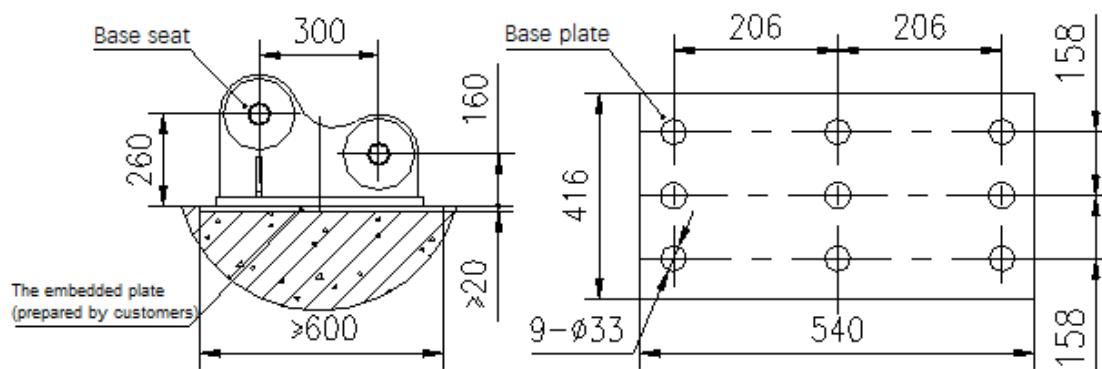

Fig. 3-14 The pin bore and the base plate
- If used the bolts to connect, position size of the embedded bolts according to bottom foundation support from the Fig. 3-14 to assign, M30 bolt must be more than 8.8.